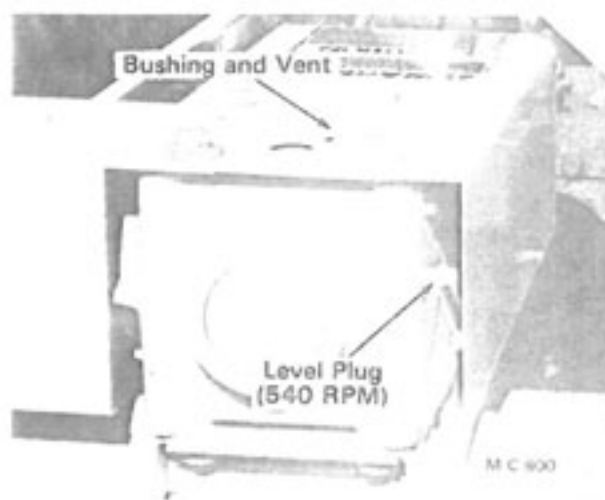

Figure 11
1. Remove the oil level plug on the right side (540 RPM) or the rear (1000 RPM) of the gear box, see Figure 11. The oil level should be even with the bottom of the level plug.